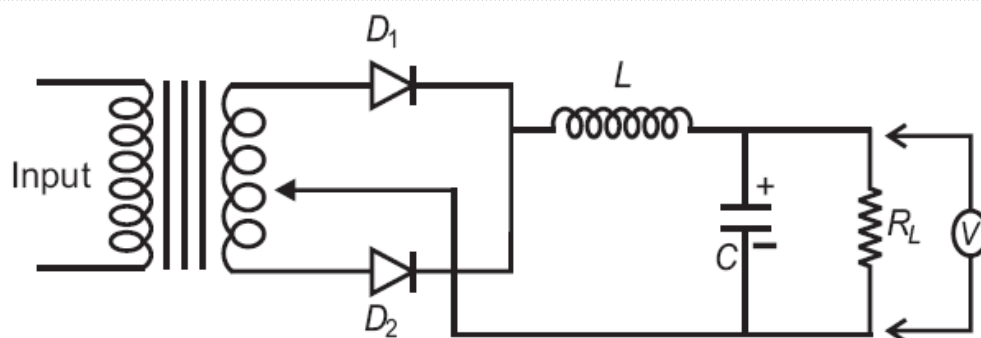

Fig. 10.9: Circuit diagram for L-section filter.
1. Modify the circuit of inductor filter by connecting a capacitor in parallel to the load resistance, R_L , as shown in Fig. 10.9. This combination of inductor and capacitor is known as an **L-section filter**.